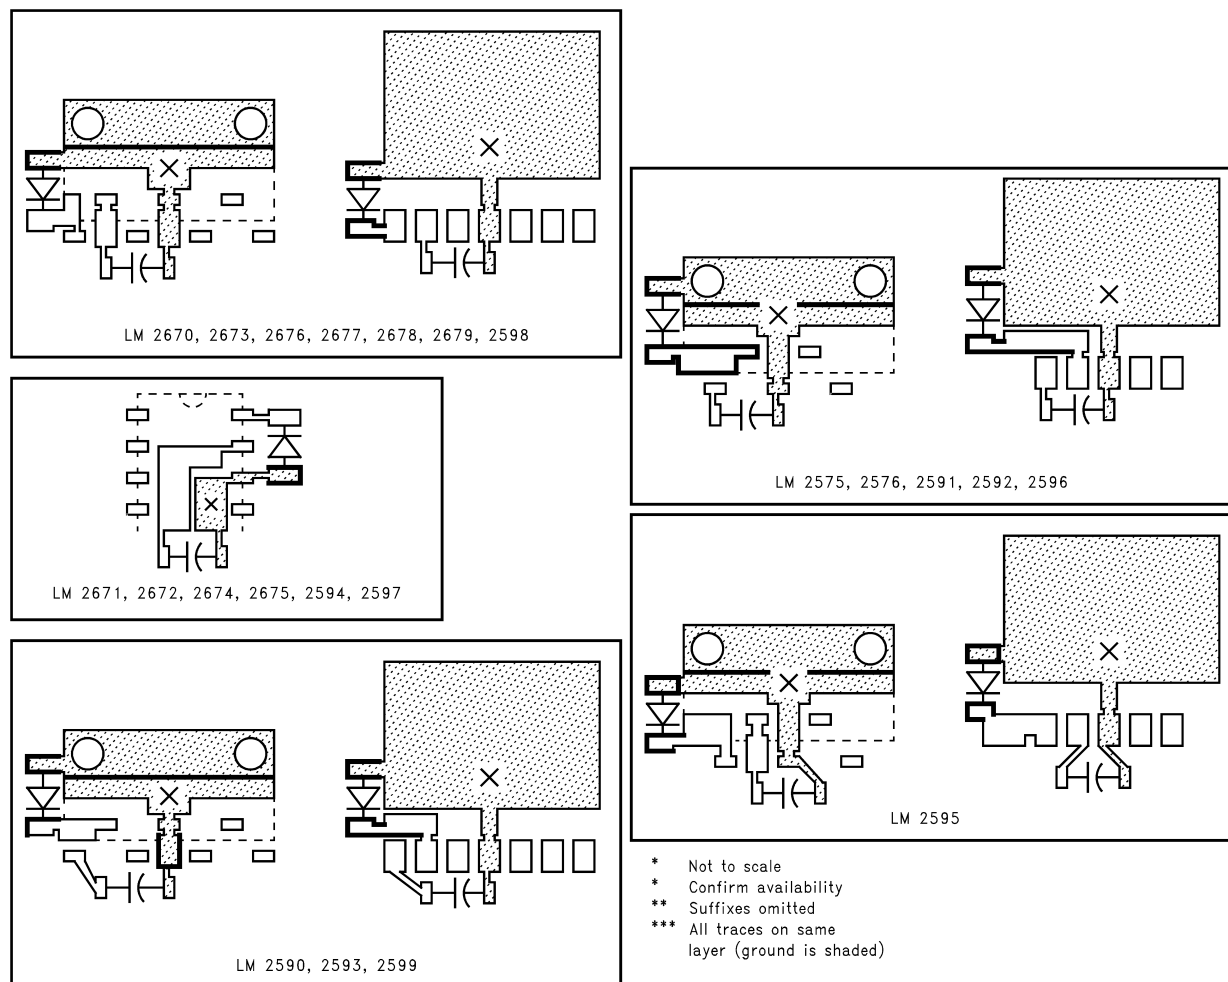

Figure 1. Recommended Layout Starting Points
The overall subject of PCB design is an extremely wide one, embracing several test/mechanical/production issues and also in some cases compliance/regulatory issues. There is also a certain amount of physics/electromagnetics involved, if a clearer understanding is sought. But the purpose of this application report is to reach the audience most likely to use it. Though there is enough design information for the more experienced designer/CAD person, **the application report includes a quick-set of clear and concise basic rules that should be scrupulously followed to avoid a majority of problems.** In particular, we have provided recommended starting points for layout when using the popular LM267x, LM259x and LM257x families (Figure 1). The focus is on the step-down (Buck) Simple Switcher ICs from Texas Instruments, but the same principles hold for any topology and switching power application.
1. Place the catch diode and input capacitor as shown in Figure 1.
2. For high-speed devices (for example, LM267x) do not omit placing input decoupling/bypass ceramic capacitor (0.1 μ F–0.47 μ F) as in Figure 1.
3. Connect vias to a Ground plane if available (optional, marked 'X' in Figure 1).
Remaining component placements can be taken up only after the input bypass capacitor and the catch diode are firmly in place and are both acap. The traces to either of these two components should be short, fairly wide, and should not go pass through any vias on the way to the IC. For SMT boards this implies that the input capacitor and catch diode are on the same layer as the IC. **In Figure 1 suggested PCB starting points are provided for several switchers.** All of them focus on placing these two critical components correctly. These layouts are strongly recommended for most applications. **The 'X' marks suggest the recommended location where vias can be used to connect to a Ground Plane (if present).** The remaining components can be placed relatively carelessly (though in doing so, there may be slight impact, for example on the accuracy of the output voltage rail and its ripple, but nothing compared to what can happen if the input decoupling cap and catch diode are incorrectly placed). Trace routing is now discussed in more detail.
The tab of the power packages of the Simple Switcher devices is fortunately at Ground potential, so having large copper planes around the tab will not produce EMI. The tab can be left floating, but if it is used, it must be physically connected directly to the GND pin of the IC as indicated in Figure 1. If a double-sided board is used, several small vias can be sunk right next to the IC Ground in positions marked 'X' on to a 'Ground plane' on the other side of the PCB. These vias therefore not only help in the correct electrical implementation of grounding, but also can serve as thermal shunts. They are therefore
With double-sided boards, it is a common practice to almost completely fill one side with ground. There are people who usually rightly so consider this a panacea or ‘silver bullet’ for most problems. As we have seen, every signal has a return, and as its harmonics get higher, the return ‘wants’ to be directly under the signal path, thus leading to field cancellation, and reduction of inductance. It also helps thermal management as it couples some of the heat produced by power devices on one side of the board to the other side. The Ground plane also capacitively links to noisy traces above it, causing some ‘softening’ of transients and thereby some reduction in noise/EMI ---**unless the cross-coupling is so severe as to start causing the Ground plane itself to radiate.** Vias can be sunk under the ground terminal of all power components in to the Ground plane, and this reduces DC resistance offset errors on the output voltage too for example. As mentioned, in Figure 1, ‘X’ marks have been placed to indicate that if there is a double sided board in use, and a Ground plane is present, then vias can be added at these points. They are optional, and so if a low cost single-sided board is preferred, they can be omitted. But if these vias are also doubling over as ‘thermal vias’ for the switcher IC, as when they are under the tab of an SMT power device, they should be sized appropriately as previously discussed.
However, a Ground plane should be an 'add-on' to the recommendations in Figure 1. It does not substitute the correct placement of the two critical components. Much effort should go into not breaking or partitioning this plane. Further, in general, if too much switching power flow occurs through such a plane, it can create 'ground bounce' and cause controller upsets. Therefore in higher power applications, with the added luxury of multi-layer PCBs, separate signal and power ground planes are used. But for the lower power SIMPLE SWITCHER family, a single Ground plane is all that may be required. And if the layout is carried out conscientiously, keeping all the recommendations in mind, even a single-sided board should suffice.